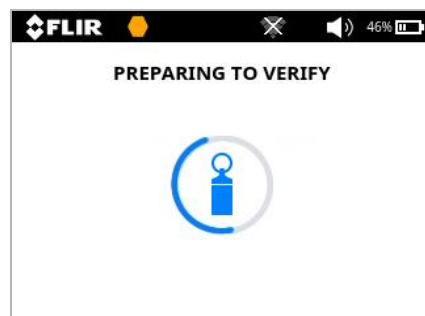

Figure 5-24: Preparing to Verify screen in Vapor Detection Mode
Step 3: Select **Go** to begin verification. A countdown of 3 seconds will display, then a screen similar to Figure 5-24 will appear: